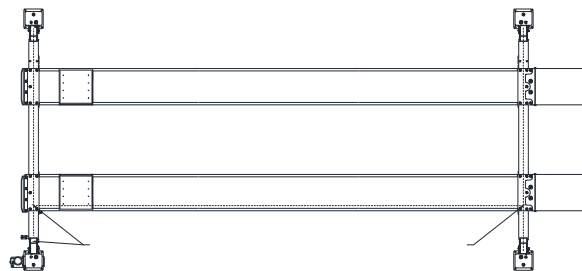

Fig 11 – Lock Release Air Line Routing
29) Install 5/32" air line from air valve assembly thru opening in runway to Tee. **Fig 11 & F**